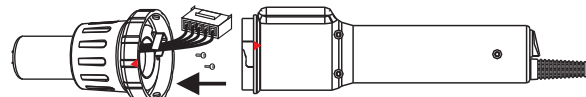
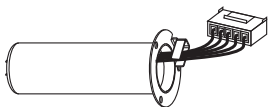

Figure 2
Figure 3
- Taking DES 560C as an example: while pressing keys to increase or decrease temperature, the display screen should show the temperature required to be set, such as 350°C; (as shown in Figure 2);
- Taking DES 560C as an example: while pressing keys to increase or decrease air volume, the display screen should show the air volume required to be set, such as grade 5; (as shown in Figure 2);
Heat the lead frame evenly. (Figure 2)
2. Take off the 5P extension cord (as shown in Figure 2) connected with handle, then take off the 3 screws fixing sleeve of heating element, and last, take off the sleeve and heating element (as shown in Figure 3).